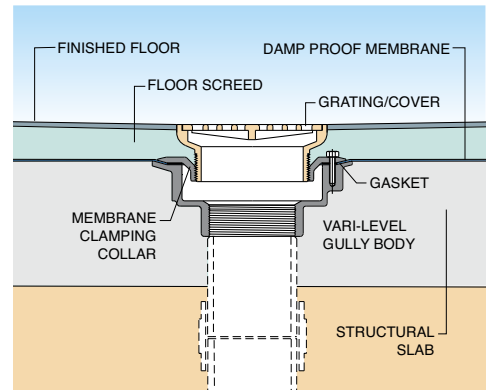

Figure 1: **C** series body with **C.C** membrane clamping collar
- (i) **Membrane clamping collar** (figures 1 and 2)
Some membrane clamping collars are reversible (figure 1), thereby increasing the height adjustability of grating/cover above the body. Height adjustability dimensions shown on gully body pages in section 5B allow for the full range of adjustability using reversible collars either way up as necessary.